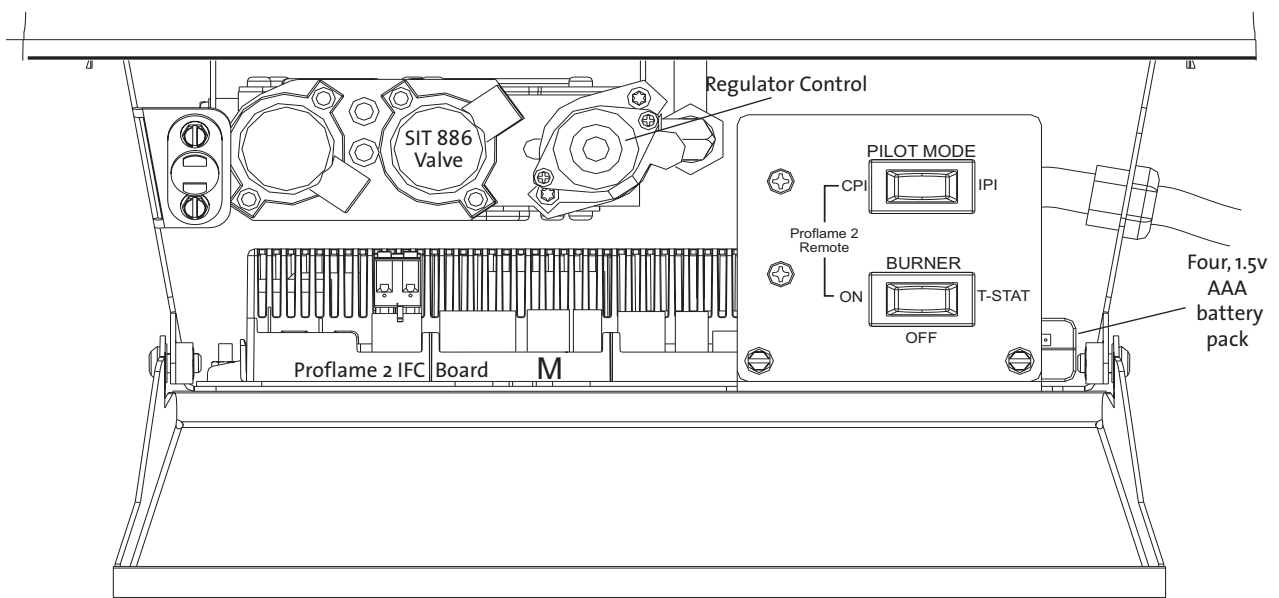

Figure 45. Control Compartment.
5. Once the pilot is lit, burner operation is controlled by the rocker switch located on the front panel. See fig. 45. **ON / OFF** - use for manual control of the burner. It remains in the ON position for use with the Proflame 2 remote transmitter. **T-STAT** - use for optional wall thermostat.